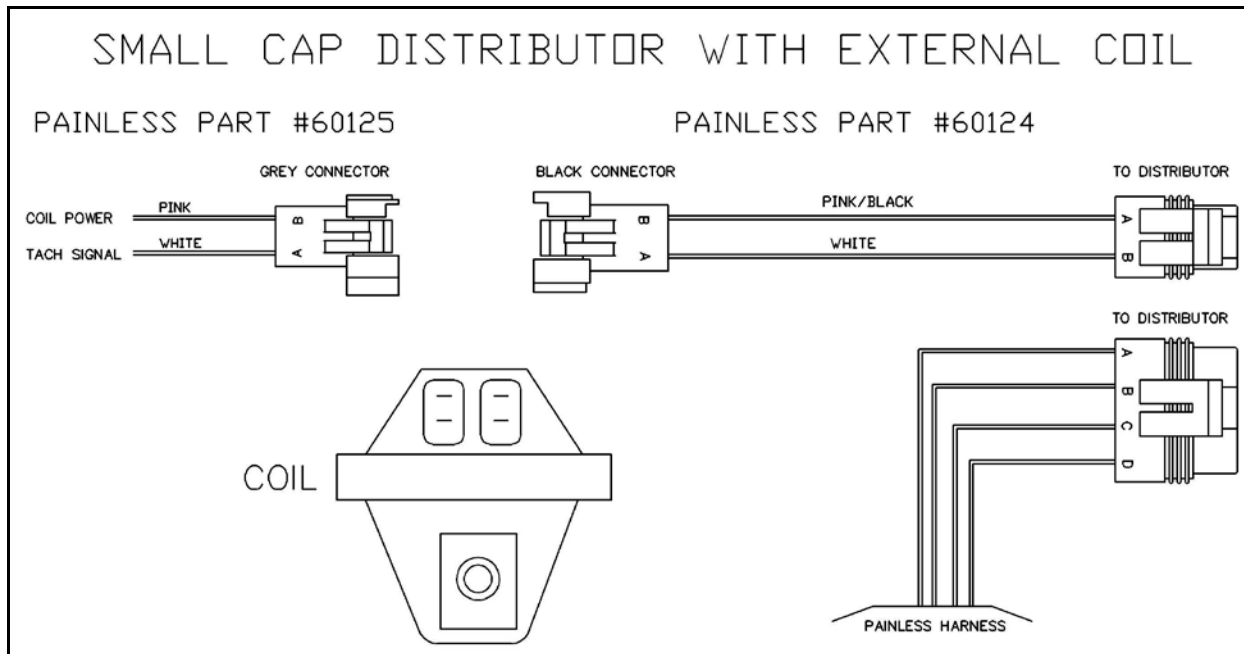

Figure 4.2 External Coil Distributor Hook-up
4.2.2 If you are using a separate coil type distributor, then you will use the distributor adapter included in the kit. You will also need to obtain the distributor to coil and coil power/tach pigtails either from your local dealer, a wrecking yard or from the original harness. The wiring for the separate coil system is shown in **Figure 4.2**.